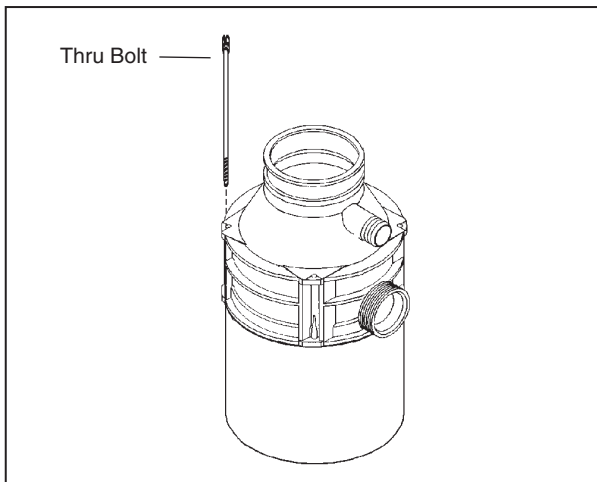

Figure 4.7
5. Remove four thru bolts (thru bolts are secured with nuts or screwed directly into lower end frame). (See Figure 4.7.)